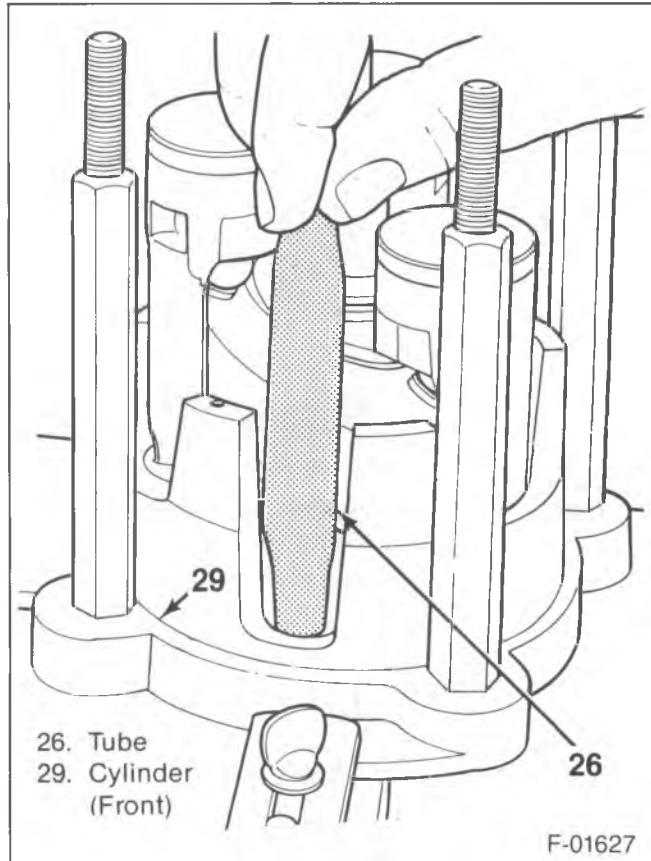

Figure 41—Installing the Discharge Crossover Tube
- 4. Discharge cross-over tube (26) (figure 41).
- 5. Rear cylinder half (42) over the shaft (39).
- Rotate the shaft (39) to position the pistons in a stair-step arrangement.
- 6. Discharge cross-over tube (26) into the rear half of the cylinder (42).
- 7. Rear cylinder half (42) over the locating dowel pins (38).